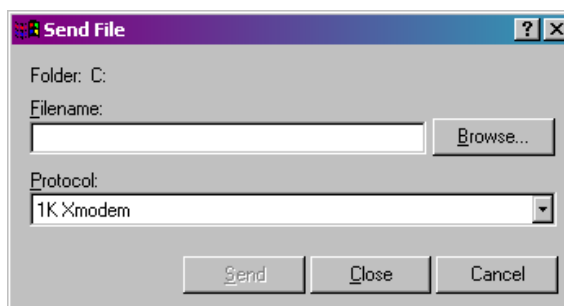

Figure 5-3. Send File dialog box
8. In the Send File dialog box (see Figure 5-3), select **1KXmodem** for the protocol, enter the filename of the appropriate .bin file in the format “E1Sxxxxx.bin” or “E3Sxxxxxx.bin” (where E1S refers to 14 MHz CPUs, and E3S refers to 33 MHz CPUs and